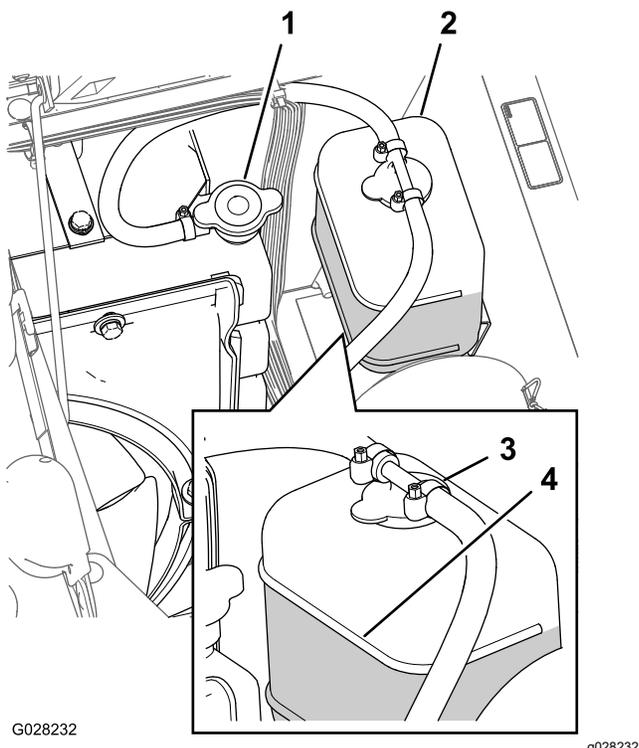

Figure 100
3. Carefully remove the radiator cap and the expansion-tank cap (Figure 100).
Note: The radiator should be filled to the top of the filler neck and the expansion tank filled to the Full mark on the tank (Figure 100).
5. If the coolant level is low, remove the expansion-tank cap and the radiator cap, and fill the expansion tank to the Full mark and the radiator to the top of the filler neck (Figure 100).
6. Install the radiator cap and the expansion-tank cap (Figure 100).
2. Wait until the engine is cool, then remove the radiator cap (Figure 100).
6. Remove the radiator cap (Figure 100).
8. Start the engine with the cap loose on the radiator (Figure 100).
10. Once the coolant has warmed up, top off the coolant level to the sealing surface of the cap and tighten the cap (Figure 100).
11. Open the expansion-tank cap and fill the tank with coolant to the Cold level (Figure 100).